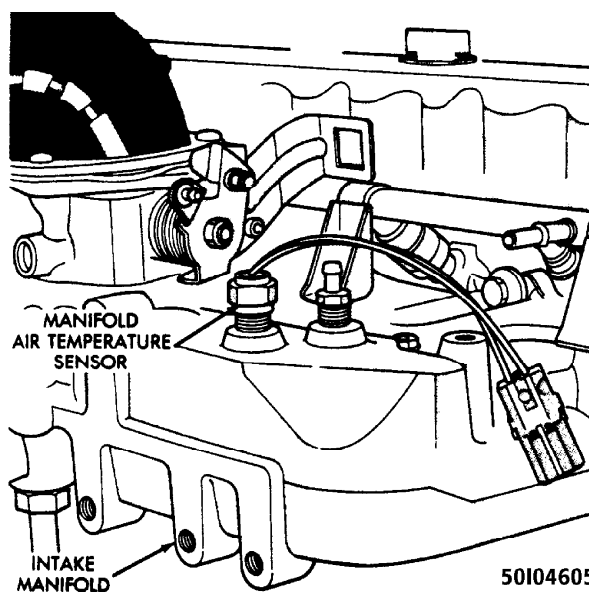

Fig. 14: Location of Manifold Air Temperature (MAT) Sensor
1) Disconnect the MAT wire harness connector from the MAT sensor. See Fig. 14*.